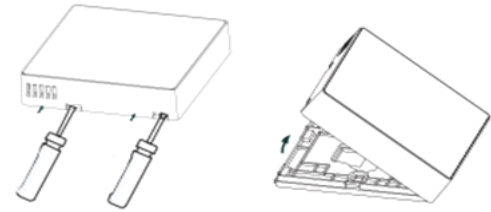

Fig. 3 — Opening Back Mounting Plate
6. Insert a flat-head screwdriver into the slots provided on the bottom of the controller to pop open the back mounting plate. See Fig. 3.